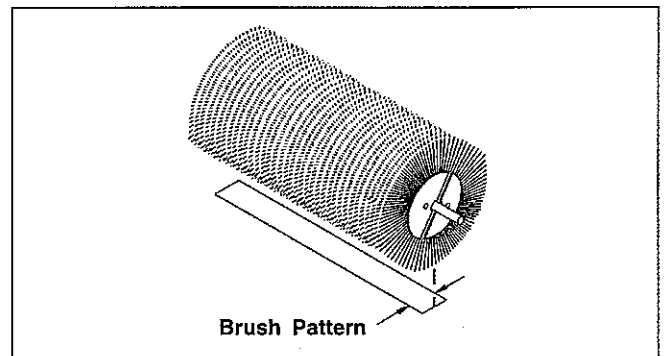

figure 14
- d. Back the tractor away from the area swept; see brush pattern (figure 14). Set the parking brake and stop the tractor.
- h. Back the tractor away from the area swept; see brush pattern (figure 14). Set the parking brake and stop the tractor.